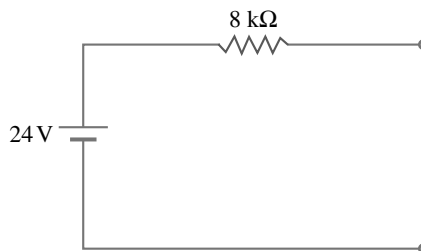

Fig. 1.55
3. Convert the voltage source in Fig. 1.55 into equivalent current source.